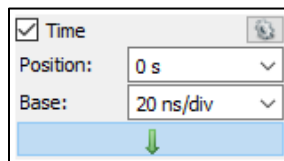

Figure 1: Oscilloscope frequency measurement time base.
4. Use the *Scope* feature in *WaveForms* to measure the clock signal, and display the waveform frequency. Within the *Scope* window, display the frequency by selecting View > Measurements, then Add > Defined Measurement > Horizontal > Frequency. To yield an accurate frequency measurement, set your time base to 20ns/div as shown in **Figure 1** below.